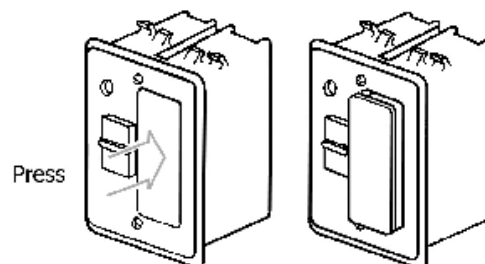

Fig 2
2. Press the battery compartment slightly into the Remote Receiver and then release. The battery compartment will pop out of the Remote Receiver. Figure 2.